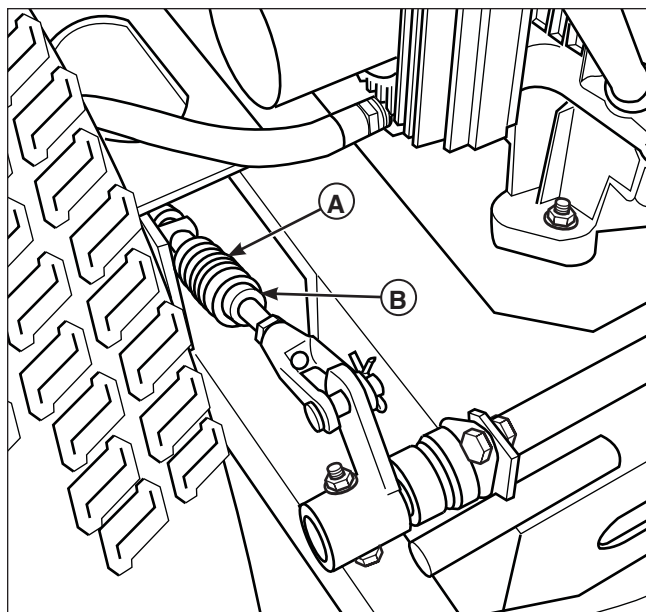

Figure 31. Parking Brake Adjustment
3. Locate the two parking brake springs (A, Figure 31). One is located on the left rear side of the engine deck by the left drive wheel and the other is located on the rear right side of the engine deck by the right drive wheel.
4. Loosen the set collar (B) and then tighten it snugly against the white brake spring. Repeat process for other side.